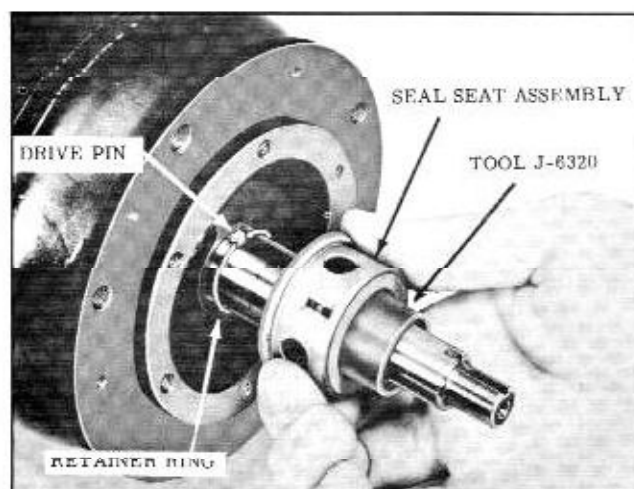

Fig. 14-39 Installing Seal
1. Lubricate pump gears with Frigidaire 1000 Viscosity oil and install as shown in Fig. 14-39.